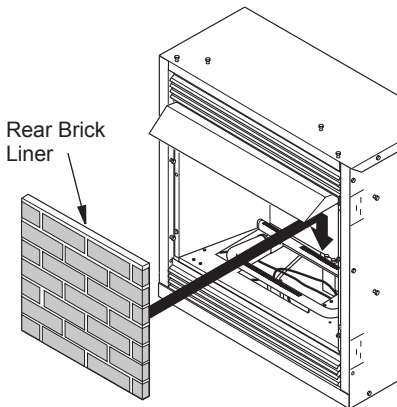

Figure 37 - Installing Rear Brick Liner
2. Place rear brick liner against back of firebox. The left and right brick liners will hold this liner in place (see Figure 37). Be sure to hold the rear brick liner while installing the sides so it will not fall forward.